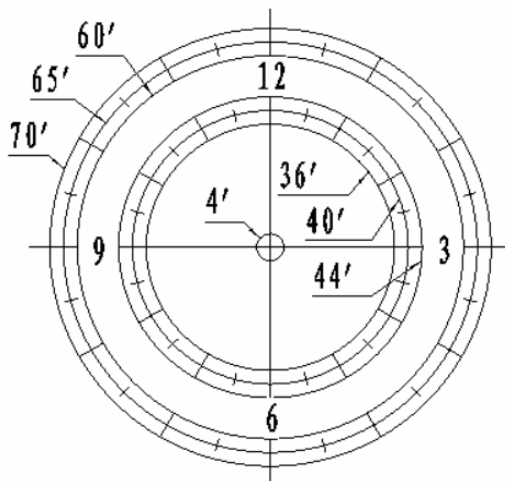
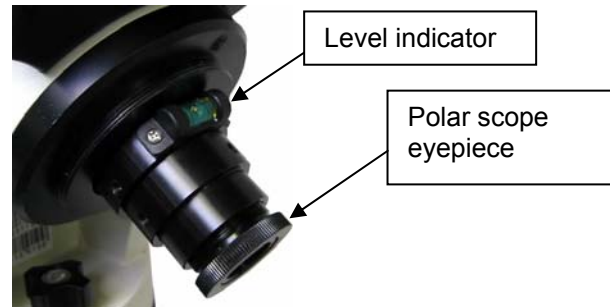

Figure 12. Polar Scope Dial
Figure 13. Polar scope with bubble level indicator
As indicated in Figure 12, the Polar Scope Dial has been divided into 12 hours along the angular direction with half-hour ticks. There are 2 groups, 6 concentric circles marked from 36' to 44' and 60' to 70', respectively. The 36' to 44' concentric circles are used for polar alignment in northern hemisphere using Polaris. While the 60' to 70' circles are used for polar alignment in southern hemisphere using Sigma Octantis.
During initial setup of the iEQ mount, it is likely that the viewing hole on the DEC axis of the polar scope may be blocked by the DEC axle. The Polar Scope Dial in the polar scope may not be set at the normal clock position with 12 located at the top, as shown in Figure 12. Before doing the Quick Polar Axis Alignment, complete the following steps:
- (1) Take off both the Polar Axis Cover and the Polar Scope Cover from the mount.
- (2) Remove the protection tape on the threaded hole located on the Polar Scope. First, thread the dark field illuminating LED end into the threaded hole and then plug the other end into the Reticle socket located on the R.A. unit. The illumination intensity can be adjusted using the hand controller (HC) via the **“Set Eyepiece Light”** function under the **“Set Up Controller”** menu.
- (3) Use the ▲ or ▼ button to turn the DEC axle to unblock the Polar Scope view.
- (4) Adjust polar scope eyepiece shown in Figure 13 to bring the polar scope dial in focus.
- (5) To rotate the Polar Scope to align the 12 position of the dial on the top, as shown in Figure 12, release the four R.A. clutch screws while holding the OTA, then turn the R.A. drive using HC's ◀ or ▶ button (press 9 button to change the rotation speed to MAX). PLEASE remember to hold onto the OTA or it could swing. If your Polar Scope is equipped with a bubble level indicator, as shown in Figure 13, simply make sure the bubble is in the middle.
Remove the CW Safety Screw on the end of the CW shaft. Loosen the CW Locking Screw on the side of the CW (there is a CW pin inside) and slide the CW into the shaft as shown in Figure 13(a). Tighten the CW Locking Screw to hold the CW in place. Tighten the CW Safety Screw.